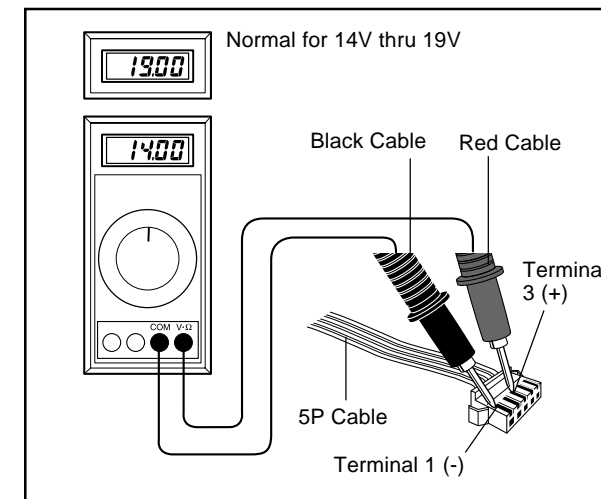

Fig. 3
4. Using a tester, measure the voltage across the terminals 1 (-) and 3 (+) of the 5P cable. (Fig. 3)